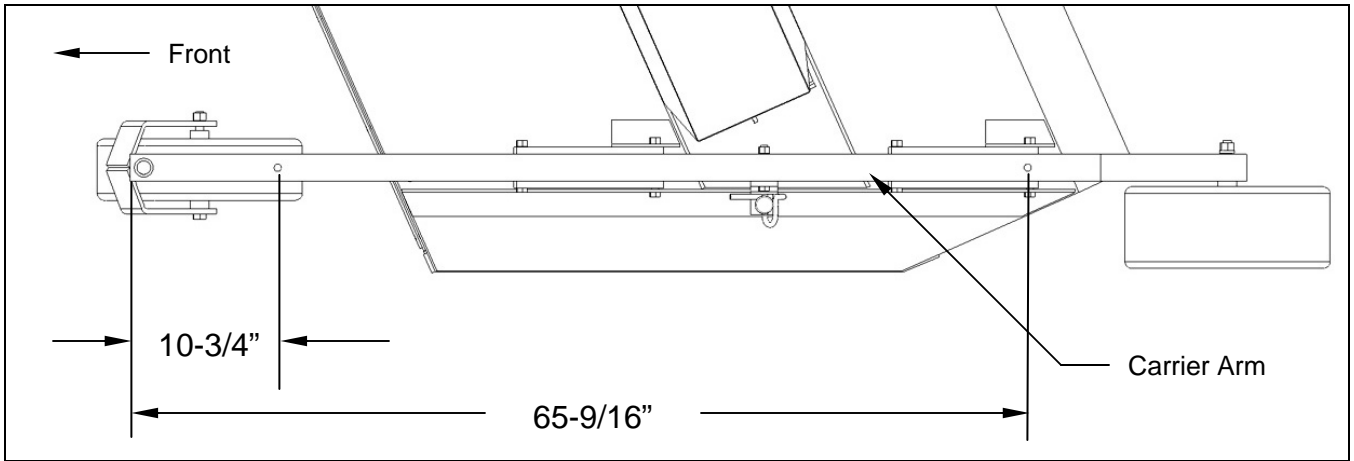

Figure 1. Carrier Arm Hole Location
A. CARRIER ARM PREPARATION (Refer to Figure 1)
1. For models that already have mounting holes present, section A. can be omitted. For models with the electric lift kit installed, refer to section E. For models without mounting holes, locate the hole positioning according to figure 1. The measurement should be taken from the front edge of the carrier arm and extend to the center of each hole. The front hole should be at a distance of 10-3/4" from the front edge of the carrier arm and the rear hole should be 65-9/16" from the front edge of the carrier arm. Hole positioning will need to be located on both the left and right carrier arms.